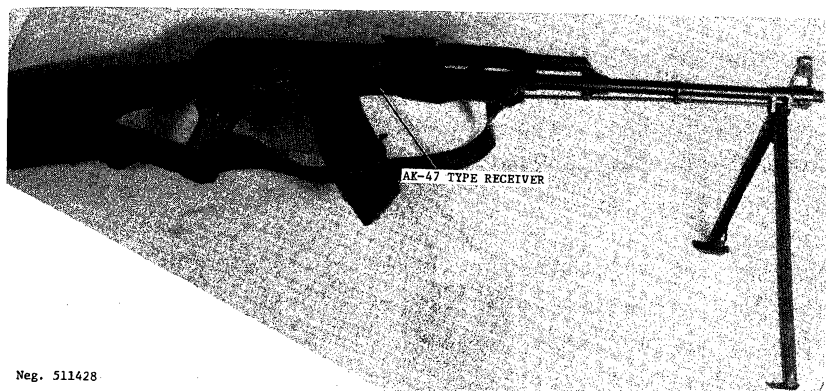

Figure 129. North Vietnamese TUL-1 light machinegun.
b. The RPK is the standard squad automatic weapon for the Warsaw Pact Armies and is produced by several nations. The origin of an RPK can be ascertained by comparing its selector markings with those in figure 57. The North Vietnamese produce an RPK-like weapon, the TUL-1 (fig 129). This weapon, however,